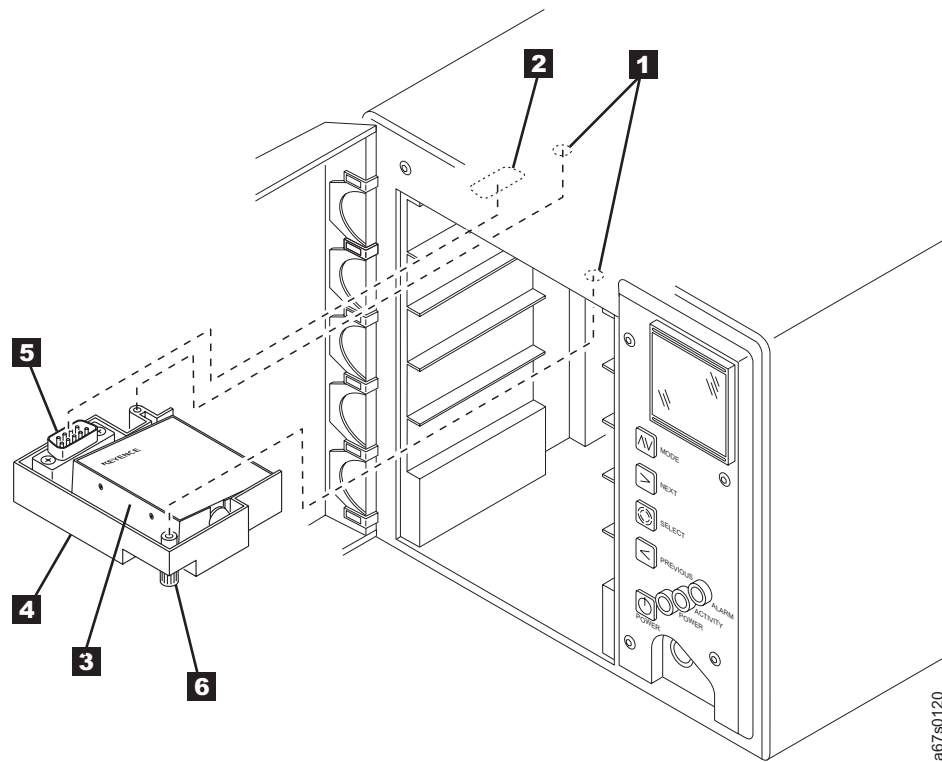

Figure 29. Replacing the bar code reader
6. Loosen the two thumbscrews (see **6** in Figure 29 on page 77) on the bar code reader's mounting bracket **4**.
1. Referring to Figure 29, locate the mounting hole **1** and interface connector **2** on the inside top panel of the autoloader, directly above cartridge storage slot 1.